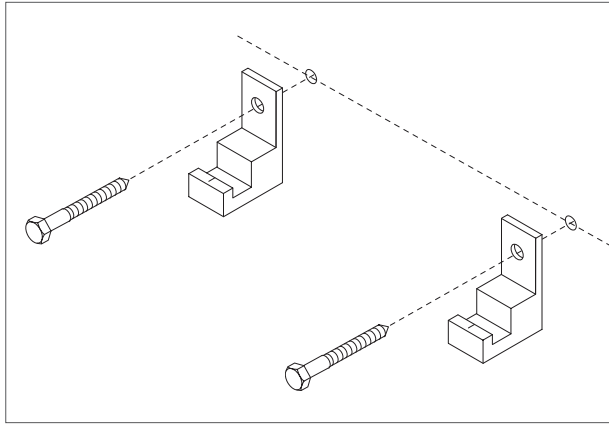

Figure 6
8. Install center spacer brackets using lag screws (provided). (Figure 6).